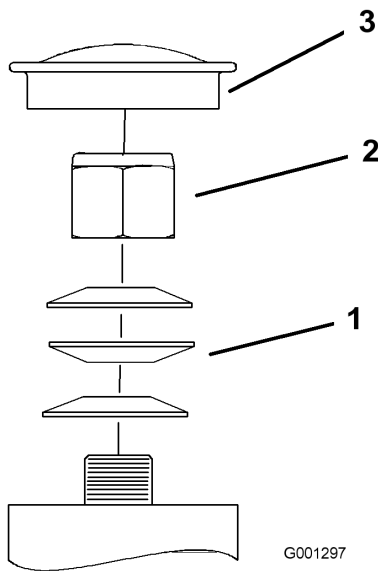

Figure 45
3. Remove the dust cap from caster and tighten lock nut (Figure 45).
4. Tighten the locknut until the spring washers are flat and then back off a 1/4 turn to properly set the pre-load on the bearings (Figure 45).
Important: Make sure spring washers are installed correctly as shown in Figure 45.
5. Install the dust cap (Figure 45).